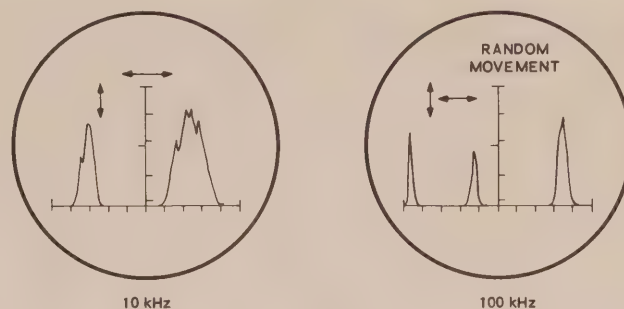

Figure 35
**Figure 35 - Random Noise:** This type of noise appears in numerous forms. Usually a noise pulse from electrical equipment, etc., is sharp and appears only briefly on the scope. A static burst is usually much wider, usually stationary on the screen, and lasts somewhat longer.